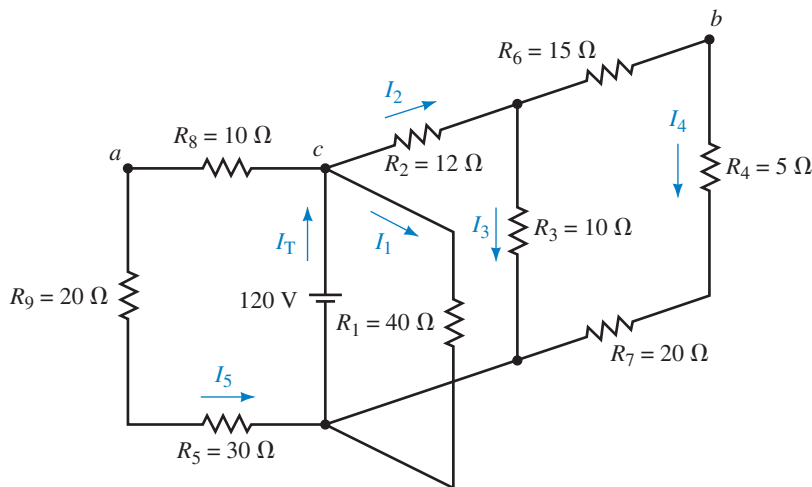

FIGURE 7-57
14. Refer to the circuit of Figure 7-57: